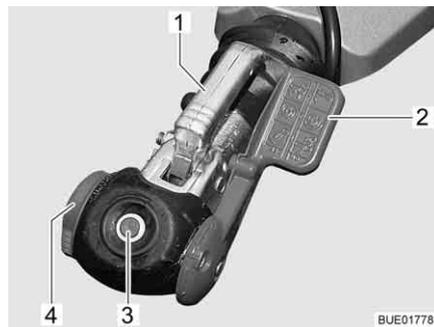

Fig. 3 AKS 1300 stabiliser
- Pull up the stabilising lever (Fig. 3,2) as far as possible.
- Turn the handwheel (Fig. 3,4) in an anticlockwise direction as far as possible in the open position.
- Pull the coupling handle (Fig. 3,1) upwards.
- Conduct a visual inspection: The green cylinder on the safety indicator (Fig. 3,3) must be visible.